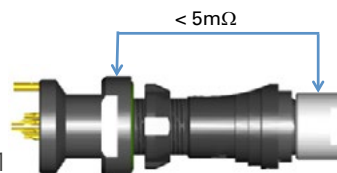

FIGURE 1
6) Measurement points on Figure 1.